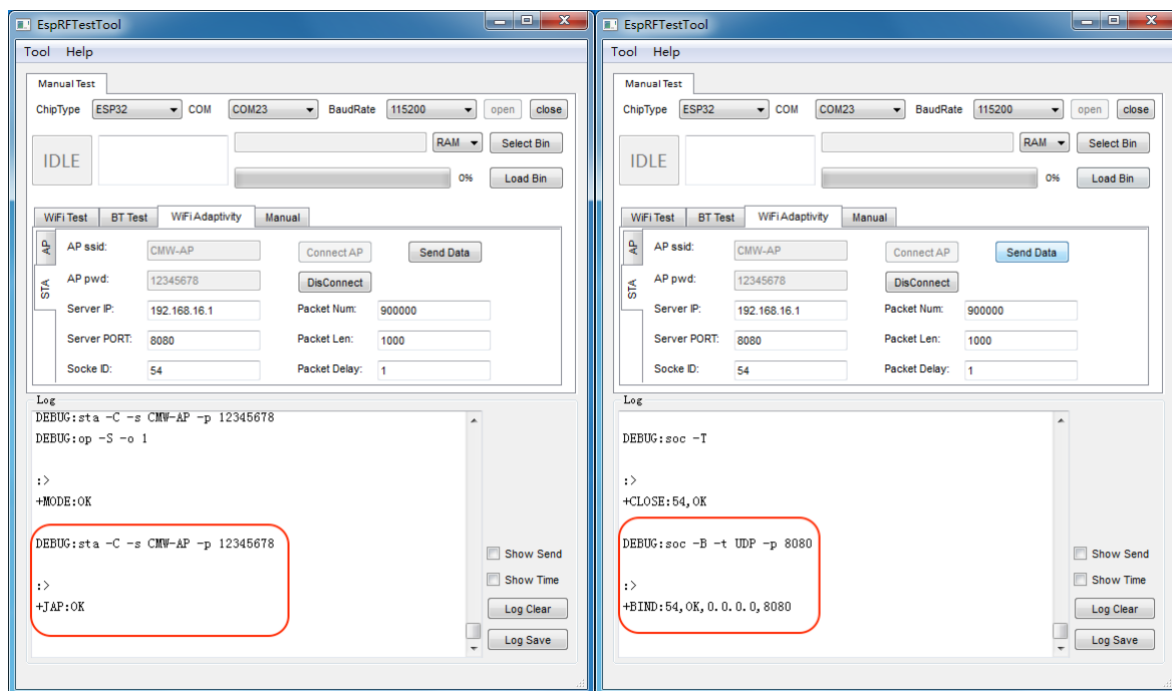
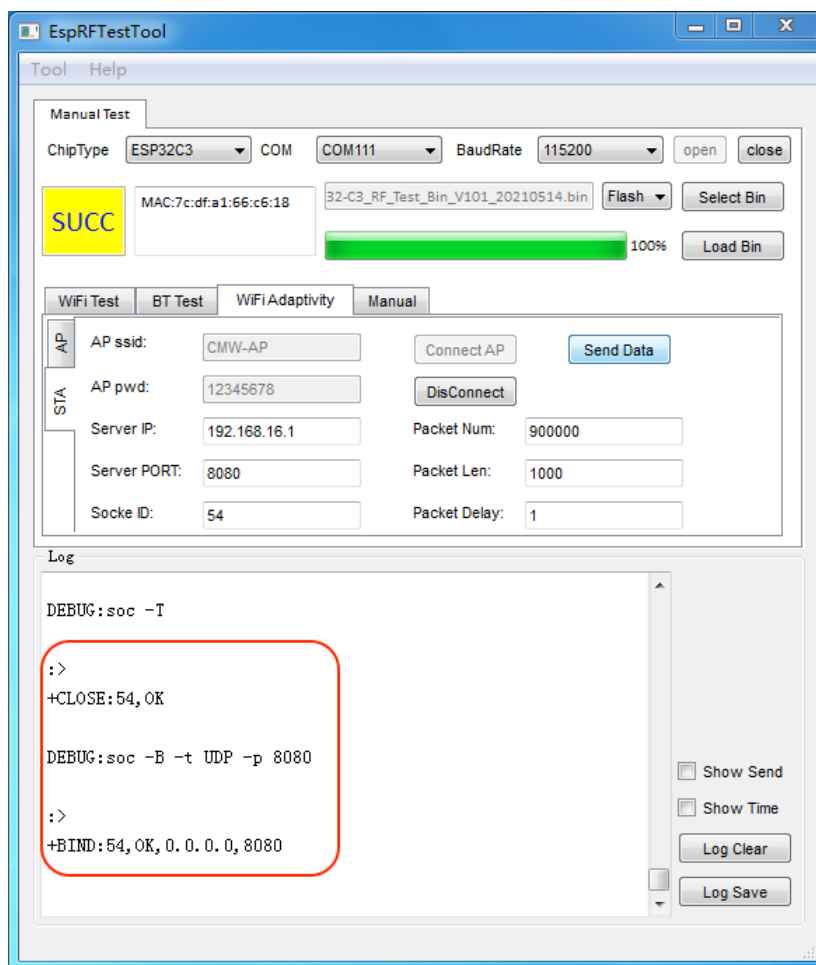

Figure 3-1. ESP32 Adaptivity Test Interface
Figure 3-2. ESP32-C3 Adaptivity Test Interface
- For the DUT working in the Wi-Fi Station Mode, switch to the **WiFi Adaptivity** tab in EspRFTestTool, click on the **STA** on the left, enter the AP ssid and password, click on **Connect AP**, and the connection log will be displayed in the Log Information panel in EspRFTestTool. Note that the AP ssid and name should be as simple as possible. Upon a successful connection, change **packet num** to 900000 for a long time running, set **packet delay** to 1, select **socket ID** of your chip, and then click on **Send Data** to start the adaptivity test. Figure 3-1 is the ESP32 test interface and Figure 3-2 the ESP32-C3 test interface.